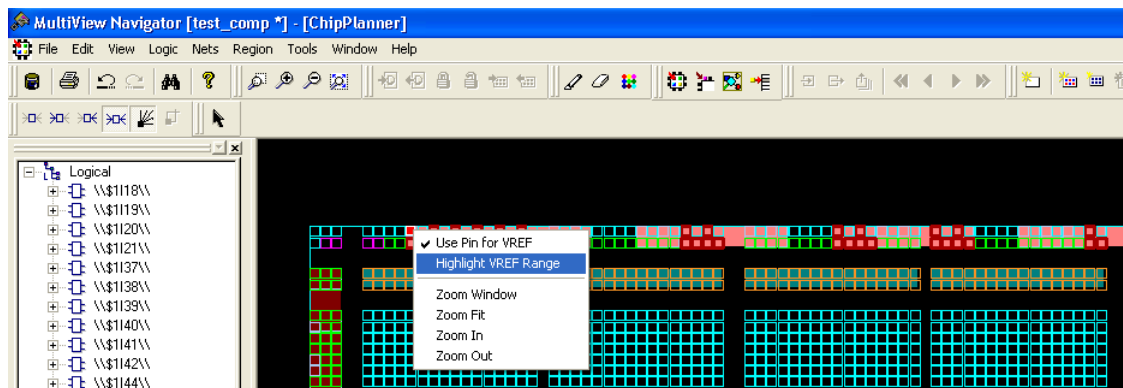

Figure 8-15 •  $V_{REF}$  Range
- Right-click and then choose **Highlight VREF range**. All the pins covered by that  $V_{REF}$  pin will be highlighted (Figure 8-15).